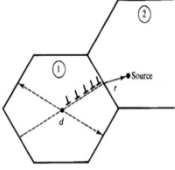

Figure 5.5
- The classical explanation for the Hall-Petch effect is that some stress concentration in a given grain is required to initiate slip in its neighboring grain. That stress concentration is most plausibly obtained through a dislocation pile-up, see figure 5.5. The essence of the argument is that stress is higher as the number of dislocations increases. Thus the larger the grain size, the more quickly (in terms of macroscopic strain) is the critical stress reached at which slip is initiated in the neighboring grain. The form of the equation describing the pile-up stress contains a term in $\sqrt{d/r}$ where d is the grain diameter and r is the (average) distance to the source in the neighboring grain from the boundary.